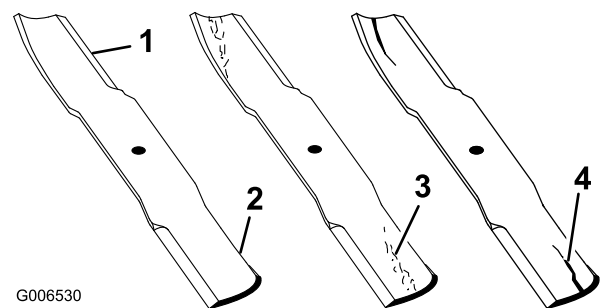

Figure 63
1. Inspect the cutting edges (Figure 63). If the edges are not sharp or have nicks, remove and sharpen the blades. Refer to Sharpening the Blades.
2. Inspect the blades, especially the curved area (Figure 63). If you notice any damage, wear, or a slot forming in this area (item 3. in Figure 63), immediately install a new blade.